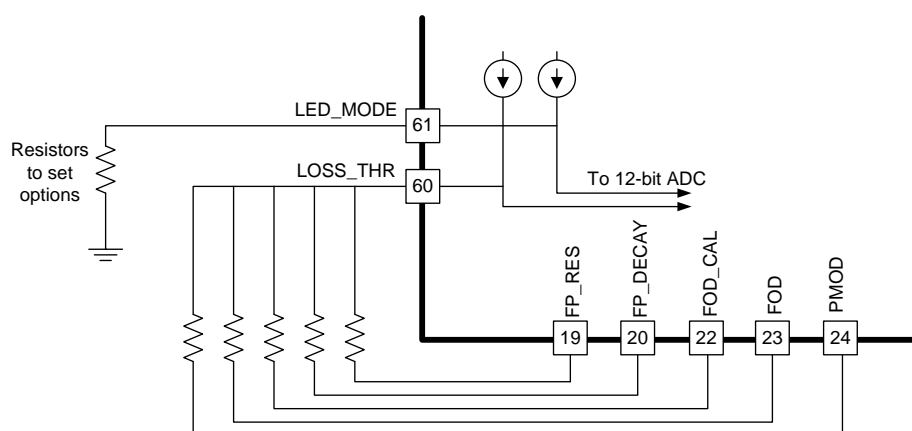

Figure 4. Pin 60 LOSS_THR and Pin 61 LED_MODE Connections
- Pins 19, 20, 22, 23, and 24 are used to sequentially bias the five programming resistors shown in Figure 4.